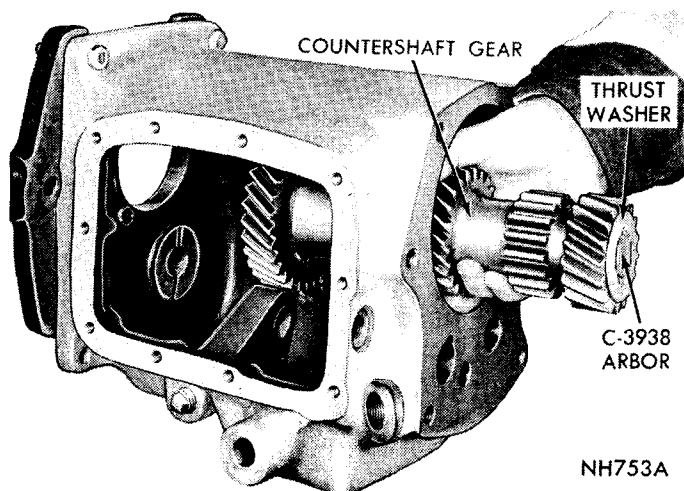

Fig. 26—Removing or Installing Countershaft Gear and Arbor Assembly
(1) Remove pinion bearing inner snap ring. Using an arbor press, remove bearing from pinion.
(2) Remove snap ring and 16 bearing rollers from cavity in drive pinion.
(3) Remove countershaft gear from bottom of case (Fig. 26).
(4) Remove arbor and 76 needle type bearings, thrust washers, and spacers, from center of countershaft gear.
(3) If countershaft thrust washers are worn or scored, install new thrust washers. Coat thrust washers with grease and install them over arbor with tang side toward the case boss (Fig. 26).
(4) Install countershaft gear assembly into the case (Fig. 26). Allow gear assembly to rest on bottom of case. (Be sure thrust washers stay in position).